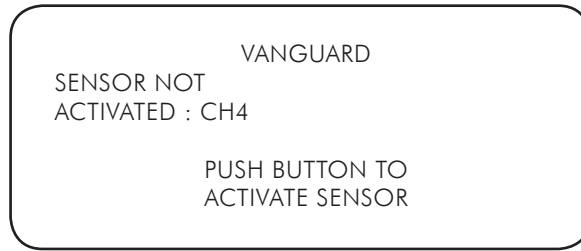

Figure 7
6. When hardware and software boot-up is complete, the device will prompt user to activate the installed sensor (see Figure 7)